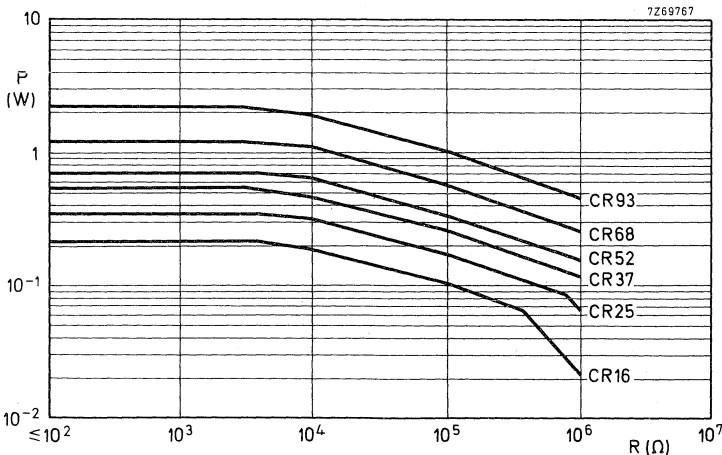

Fig. 3
3) For resistance values higher than 1 MΩ, those from the VR37/VR68 series are recommended, see Fig. 3 of the relevant specification.
In our specification, however, the rated dissipation is no longer specified and also the guaranteed resistance drift is made dependent on the working conditions. To bridge the gap between the system of IEC 115-1 and our system, Fig. 3 is added. In this figure the permissible dissipation at 70 °C for a resistance drift of max. 1,5% after 1000 hours is given, taking into consideration that the hot-spot temperature should not rise above 155 °C (horizontal part of the curves). In our specification the curves of Fig. 3 replace the rated dissipation.